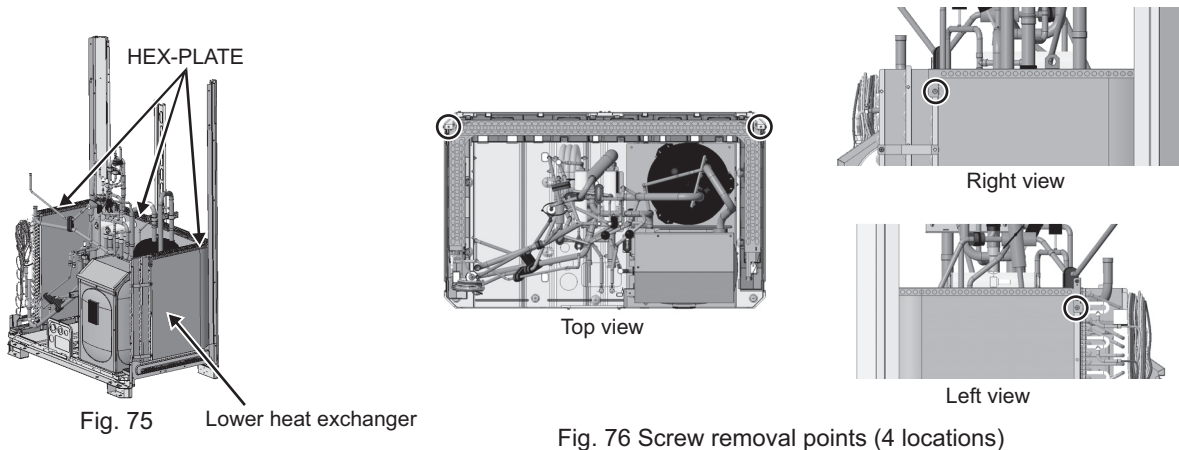

Fig. 76 Screw removal points (4 locations)
- (5) Remove the HEX-PLATE (3 parts) and remove the lower heat exchanger. (Four screws: Fig. 75 and Fig. 76)